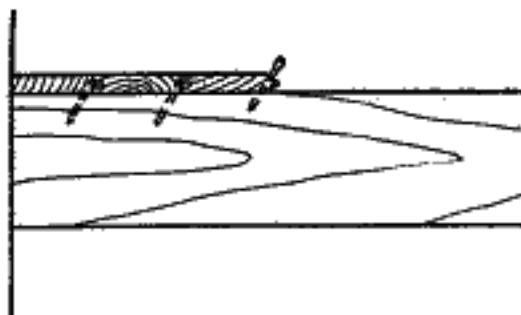

FIG. 76.—Draw nailing. Driving the nails at an angle helps to draw the boards tightly together.
**77. Draw Nailing.**—Where it is desired to make a tight joint between two boards, as between two pieces of tongue-and-grooved flooring, the nail may be driven at an angle with the surface, as shown in Fig. 76. The nail then has a drawing effect as it is driven up, making a tight joint.